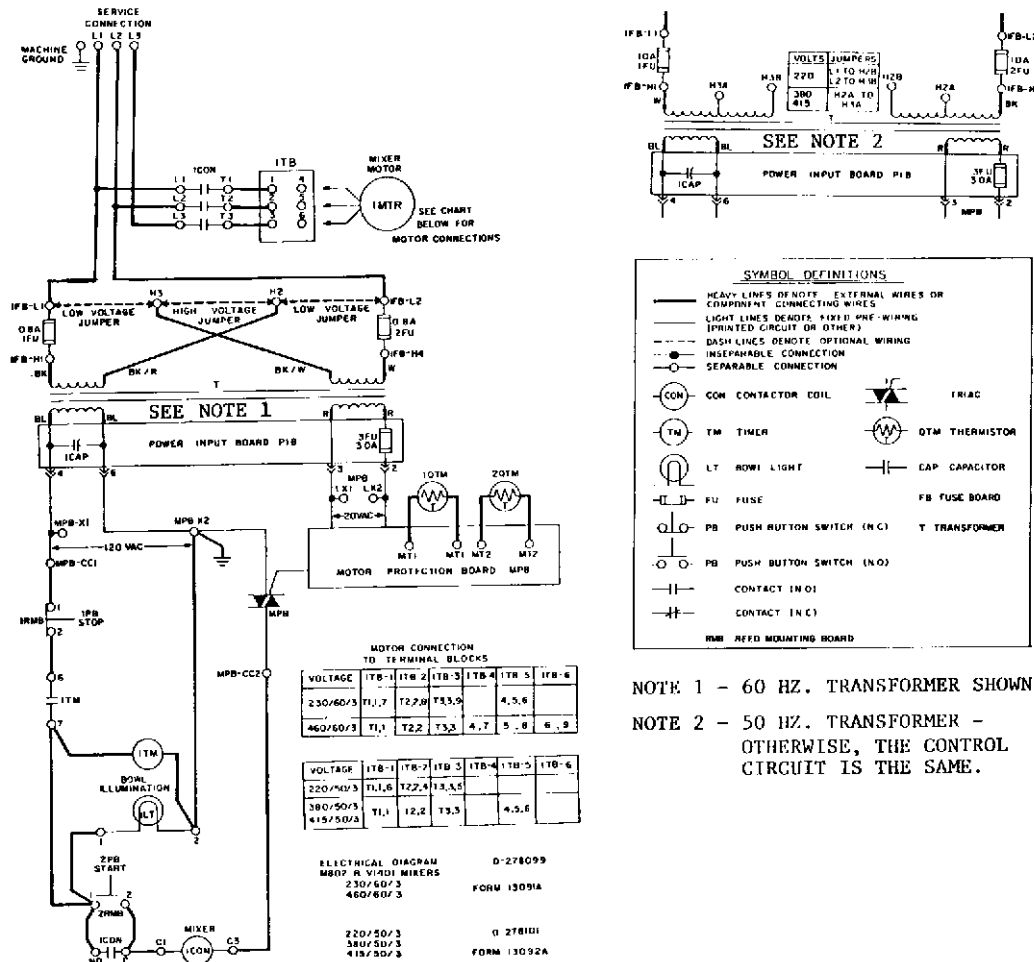

Fig. 14-6
8. Electrical Sequence of Operation. Fig. 14-6.